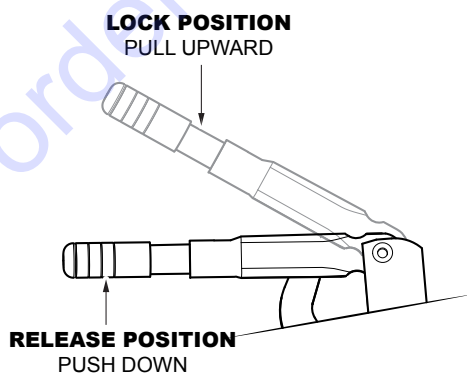

Figure 22. Parking Brake
1. To release the parking brake, push the parking brake lever all the way down (Figure 22).